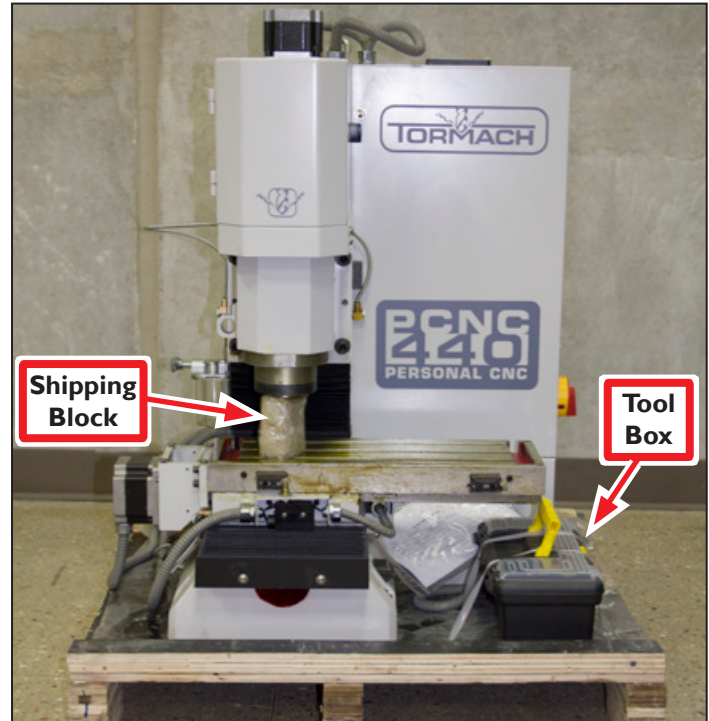

Figure 3.2
Using a pry bar, open and disassemble shipping crate by removing the top of crate first, followed by four sides. Be careful with nails. **Figure 3.2** shows the mill with the shipping crate removed.
1. Carefully cut straps to remove plastic Tool Box strapped to pallet (see **Figure 3.2**); set aside for use later. This box contains tools required for installation.